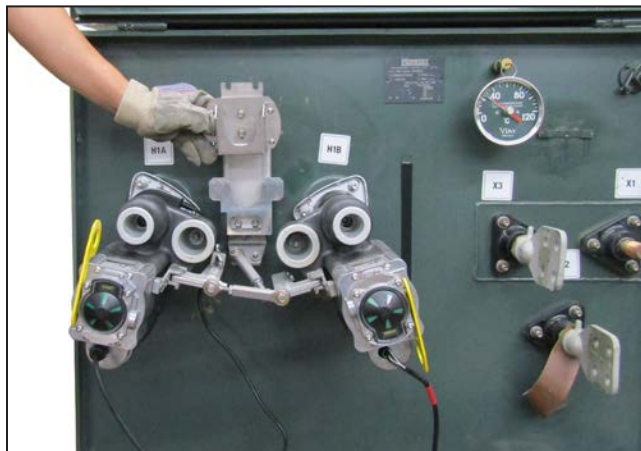

Figure 35. Slide parking stand extender onto parking stand.
- STEP 5.** Slide the parking stand spacer onto the parking stand. See Figure 35.